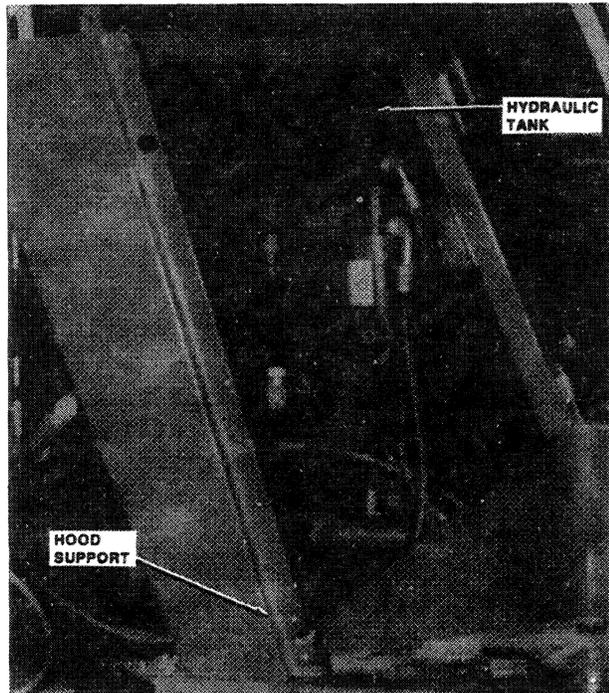

FIGURE 2-11: Hydraulic Tank and Hood Support Removal
14. Remove hardware securing rear hood support and hydraulic tank. Tip hood support and tank towards cab (Figure 2-11).
9. Reposition rear hood support and hydraulic tank (Figure 2-11).